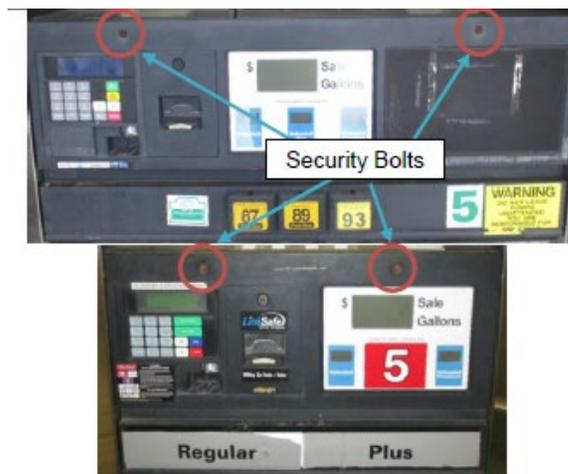

Figure 20
- 18) Lock the dispenser by using a Wayne Security Key to fasten the two security bolts (Figure 20) at the top left and top right of the electronics head bezel.